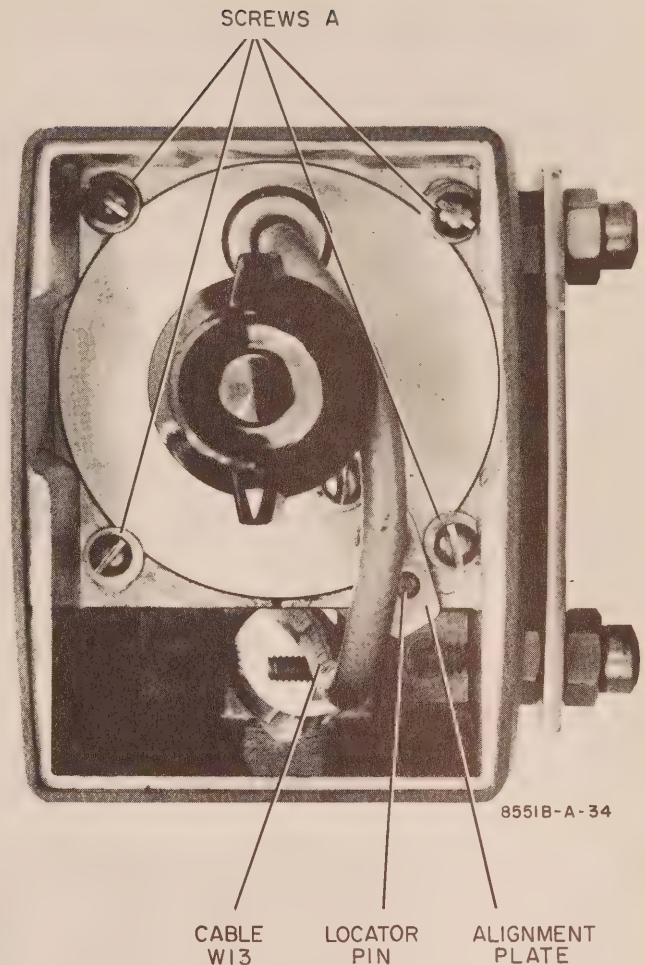

Figure 5-28. Input Attenuator Assembly A1, Front View (knob replaced on shaft)
a. Remove four Screws A (Figure 5-28) and associated washers. Screws A are 4-40 x 1/4 round head machine screws with No. 5 lockwashers. Place hardware in safe place.
b. Before lifting assembly out of housing, note that the alignment plate (Figure 5-28) fits over a locator pin on the housing. Lift assembly out of housing. (There is a 1/4-inch ball bearing in bottom of attenuator housing; bearing may drop out when turret assembly is out of housing.)